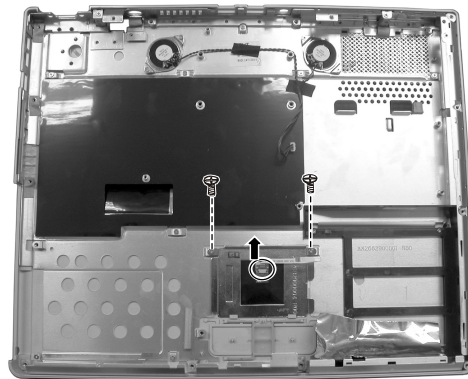

Figure 2-28 Free the touch pad
2. Remove the two screws and disconnect the cable, then free the touch pad. (Figure 2-28)